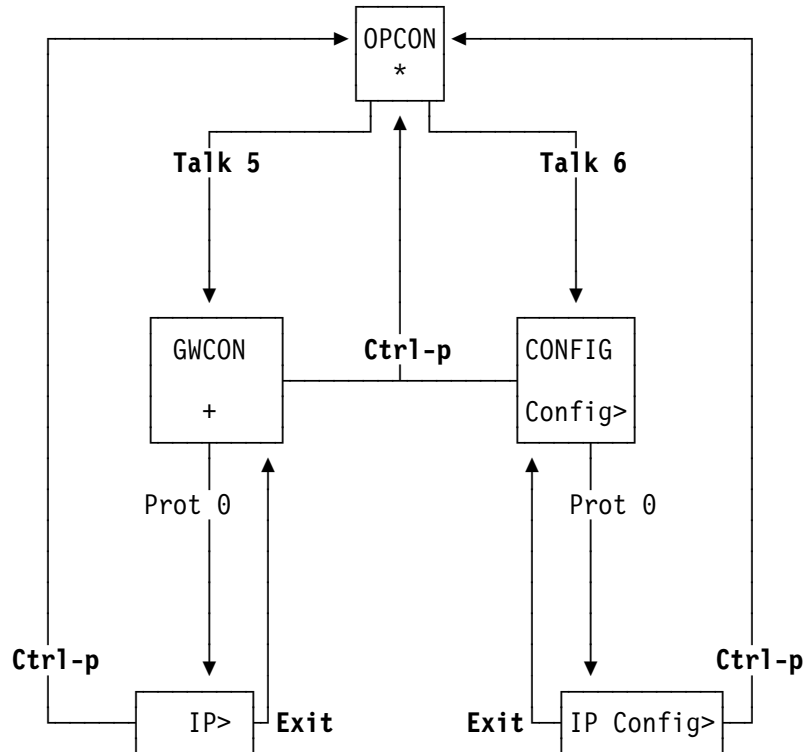

Figure B-1. Structure of the Command Line Interface (with the protocol command as an example)
**Answer** The structure of the interface is shown in Figure B-1 on page B-2.